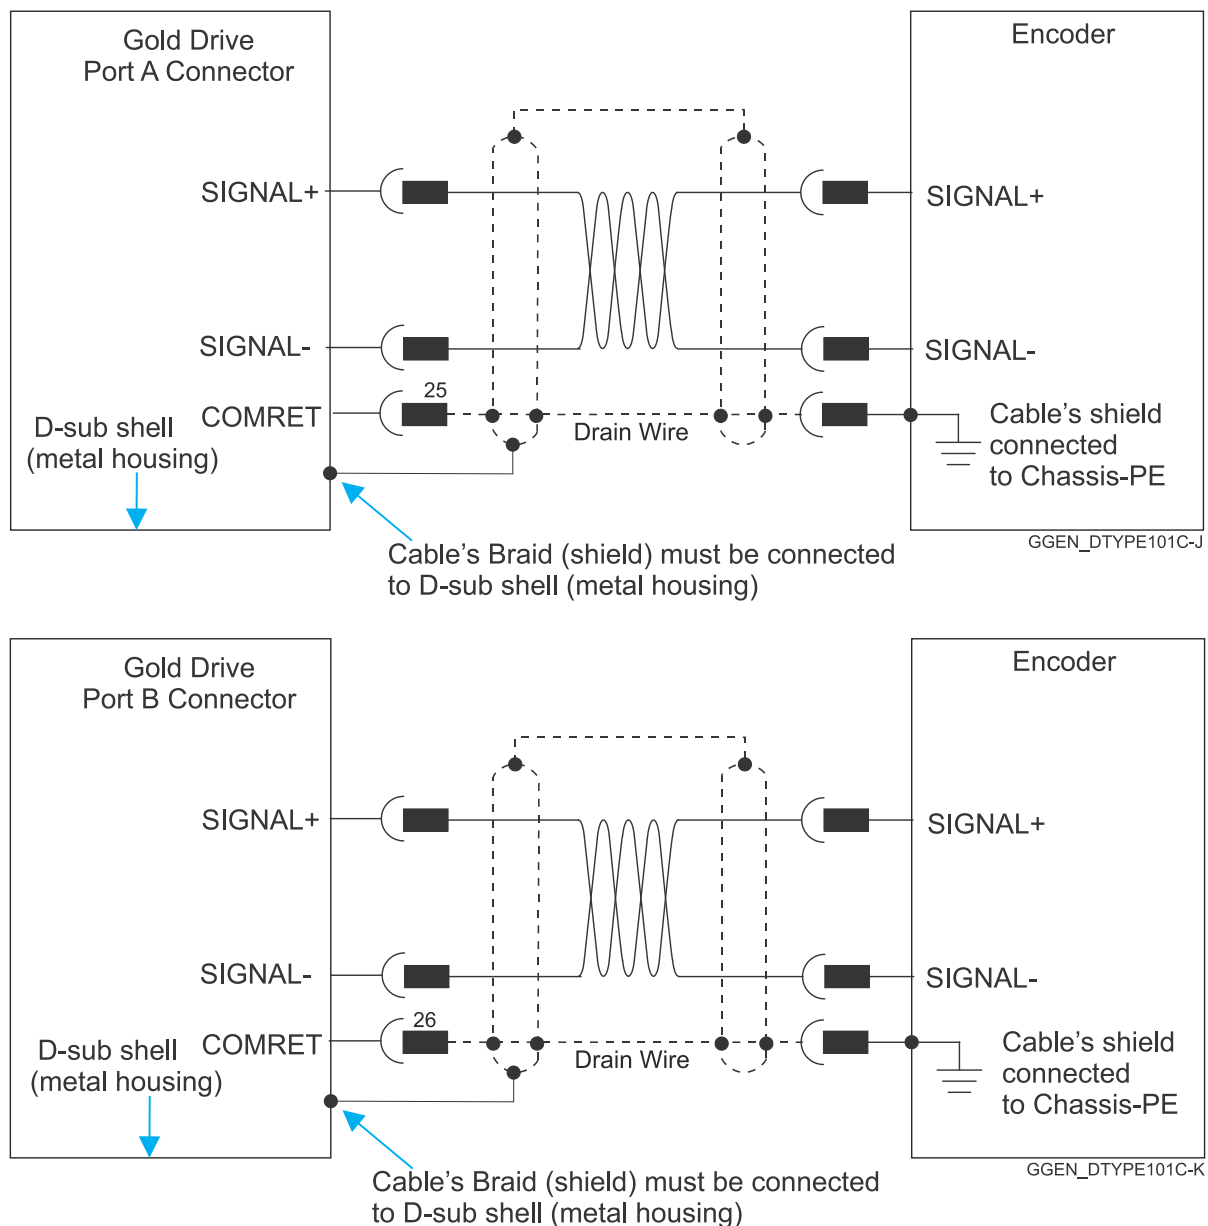

Figure 5: Feedback Port A and B Cable Assemblies
- a. At the drive, connect the feedback drain wire to one of the COMRET terminals in the D-Type feedback connector (Figure 5).